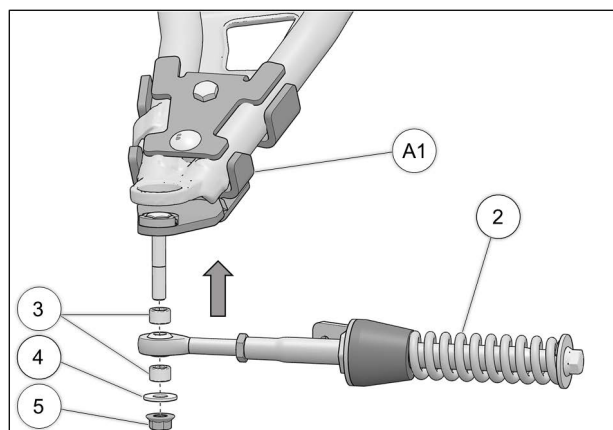

Fig. 18
9. Attach the stabilizing rod (**2**) to the anchor bracket (**A1**), using the two spacers (**3**), washer (**4**), and nut (**5**). Torque to 70 Nm [52 lb•ft]. Refer to Fig. 18